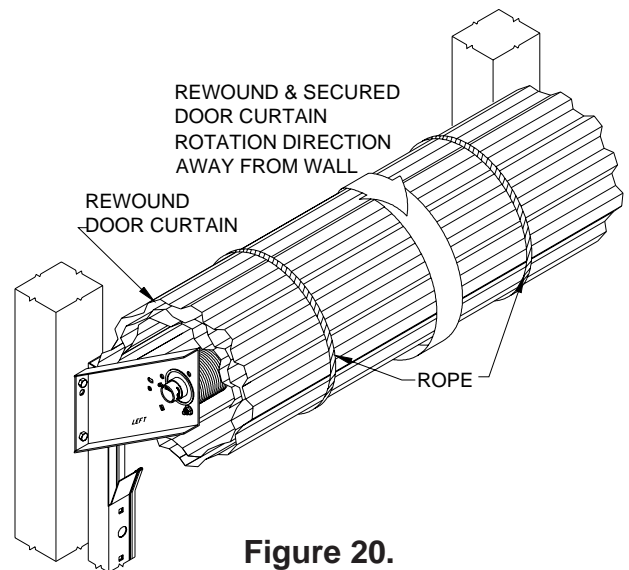

Figure 20.
16.3 Open the door but **DO NOT** allow it to come out of the guides. Strap two ropes **TIGHTLY** around the door curtain and tie the curtain **SECURELY** as it comes out of the guides. See Figure 20.